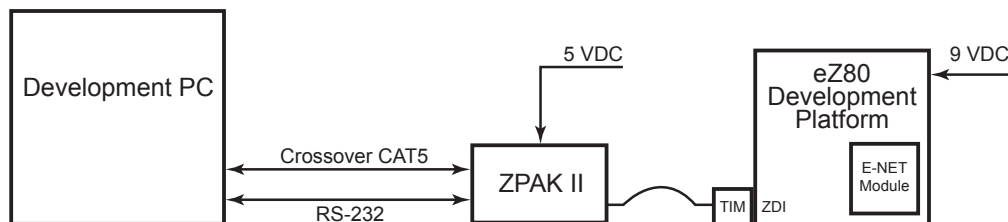

Figure 2. Hardware Setup using a Crossover Ethernet Cable (not supplied in the kit)
- **Note:** If a hub is not used, connect a crossover Ethernet cable (not supplied in the kit) from the PC to the ZPAK II unit. See Figure 2 for reference.